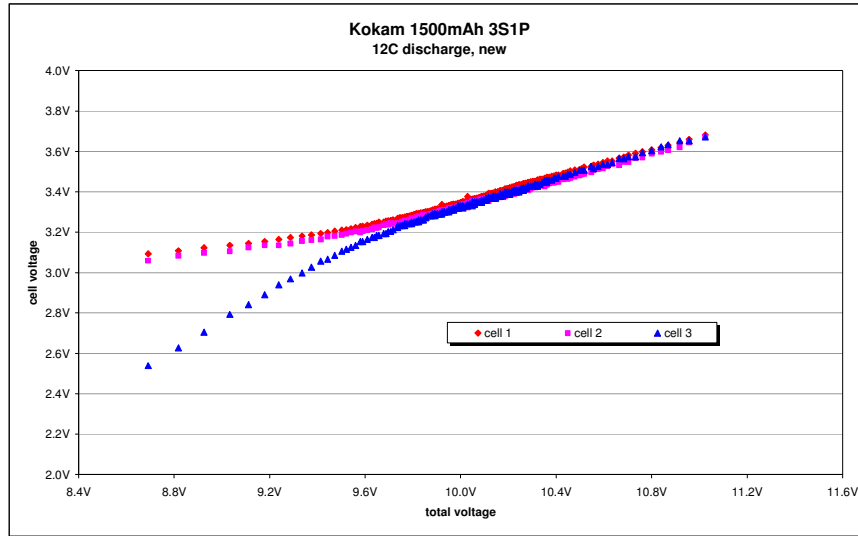

Fig. 3 Individual cell voltages during 12C discharge, initial state
3) Voltage symmetry during 12C discharge (Fig. 3, 4 and 5)